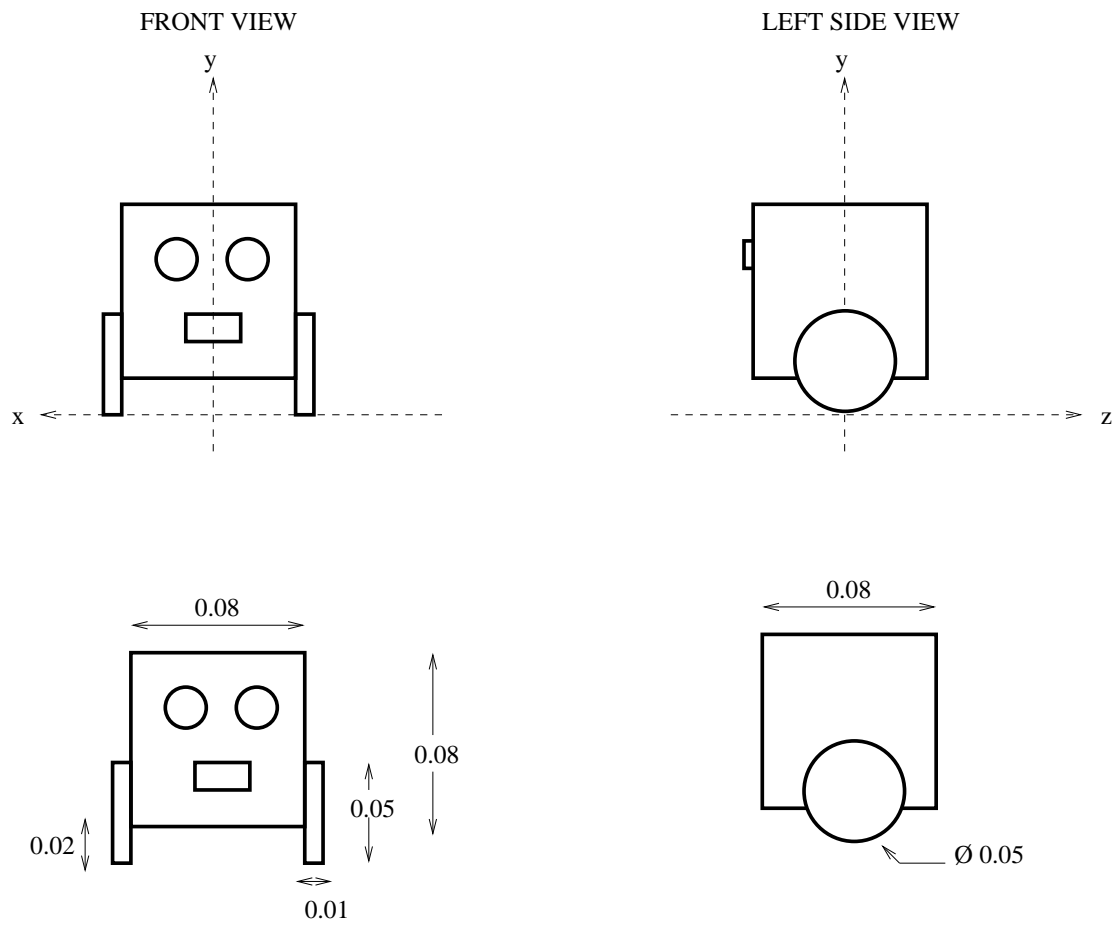

Figure 3.5: Coordinate system and dimensions of the *kiki* robot
The origin and the axis of the coordinate system of the robot and its dimensions are shown in figure 3.5.
3. In the `axleLength` field, enter the length of the axle between the two wheels: 0.09 (according to figure 3.5).